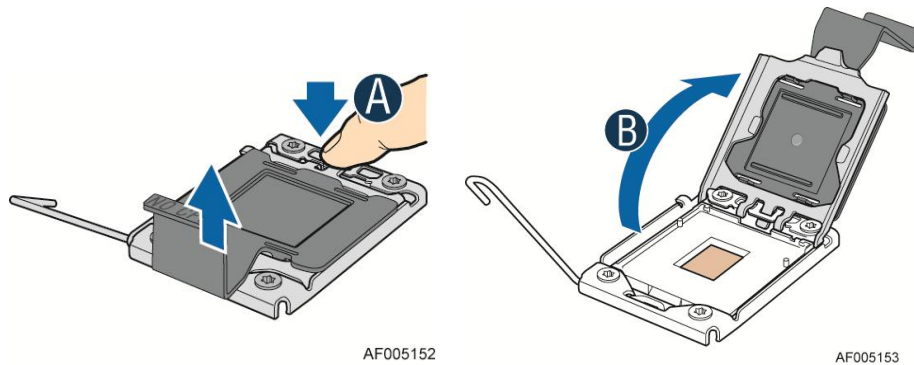

Figure 28. Installing Processor – Open the Load Plate
3. Open the load plate, see Figure 28.